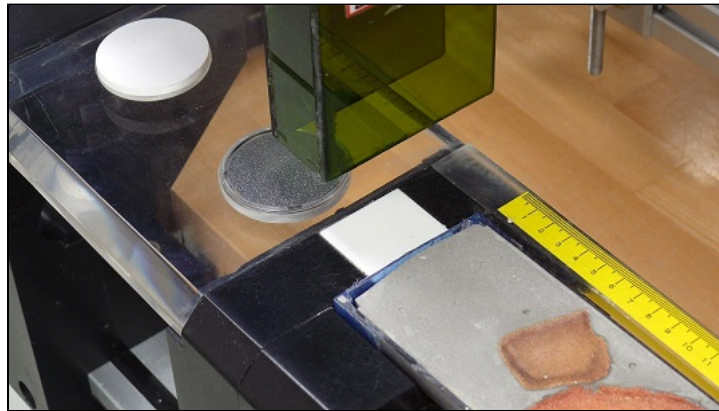

Figure 15. Benchmark location
3. Place the archive section in the core tray with the blue endcap up against the benchmark. The benchmark is the white square at the head of the rails that hold the section halves (**Figure 15**). If material is missing at the top of the section, be sure the section half is positioned all the way up to the top of the rail. For example, if a 150 cm section half has a missing 10 cm at the top, the yellow endcap should be placed against "0 cm" at the top of the instrument's rails. The user should enter 10.0 in the **Missing Top** (cm) field. The logger will measure the section, and all measurements will be placed at the correct offsets in the database.